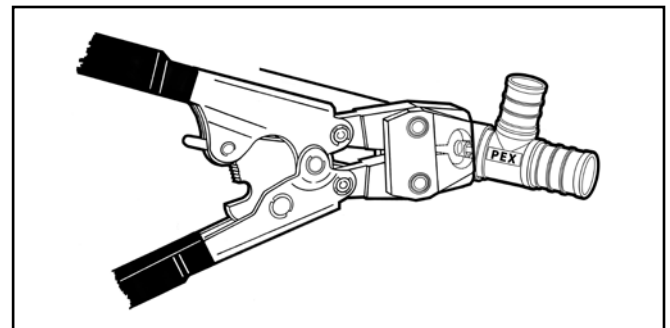

Fig. 5: Close clamp ear with tool
2. Close clamp ear with tool, tool will not release until clamp is fully closed. (Fig. 5)